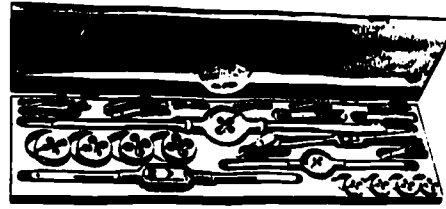

Fig 2-18. Bolt and screw threading set with round adjustable split dies, diestocks, taps, tap between wrenches, and screwdrivers.
Tap and die sets (fig 2-18) are not found in every shop, but they can make your work a lot easier. Basically, these sets will cut threads in a bolt hole or on the bolt itself. The taps are used for threading a hole while the dies are used for cutting threads on a bolt. These sets are nice to have when a part has been cross-threaded because that will correct the threads. The sets come in two sizes, national coarse (NC) and national fine (NF). For example, a 5/8-inch NC bolt will have 11 threads per inch while the same bolt with NF will have 18 threads per inch. This difference is the difference fine and coarse threaded bolts.